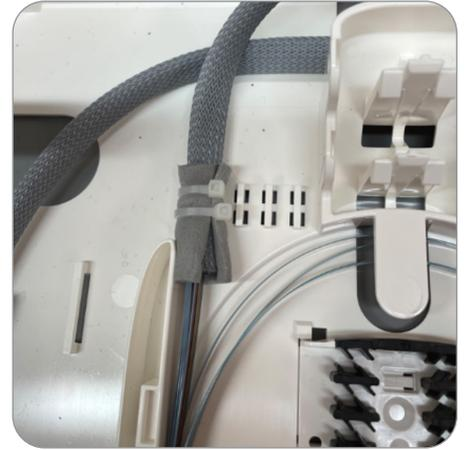

Figure 19
9. Bring fiber to splice tray and secure at splice tray entrance (Figure 19).
- c. If using mesh or spiral wrap, place the non-adhesive foam and tie wraps over the mesh or spiral wrap (Figure 19).